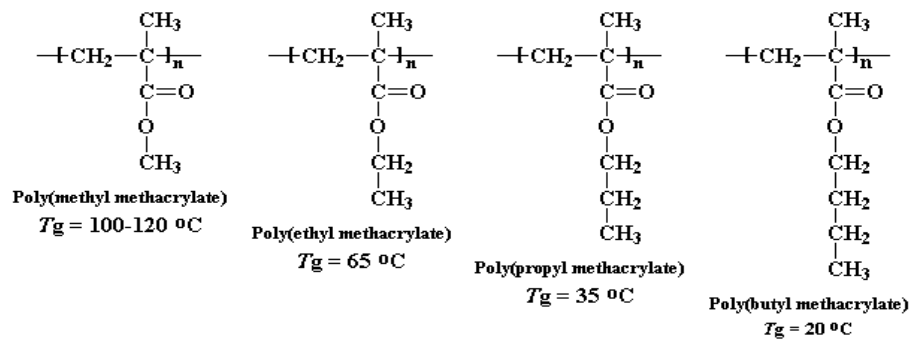

Figure 3: Effect of chain configuration on glass transition temperature (T_g) of polymers
- (c). Figure 3 shows the effect of polymer structure on the glass transition temperature (T_g) of various polymers. Explain and comment on the variation of T_g with the structure of each polymer.